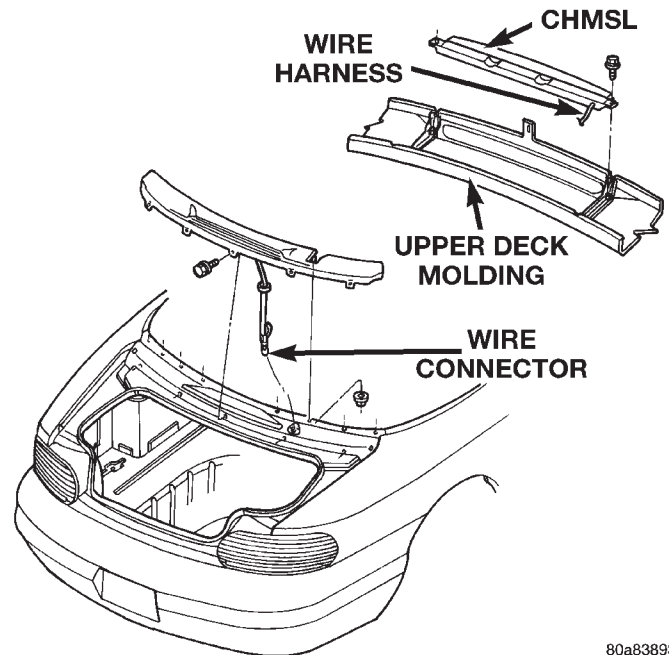

Fig. 9 Center High Mount Stop Lamp
- (1) Remove upper deck molding. Refer to Group 23, Body, for proper procedure.
- (2) Remove screws holding CHMSL assembly to upper deck molding (Fig. 9).
- (3) Remove trunk trim panel as necessary to disengage CHMSL wire connector.
- (4) Separate CHMSL from upper deck molding.